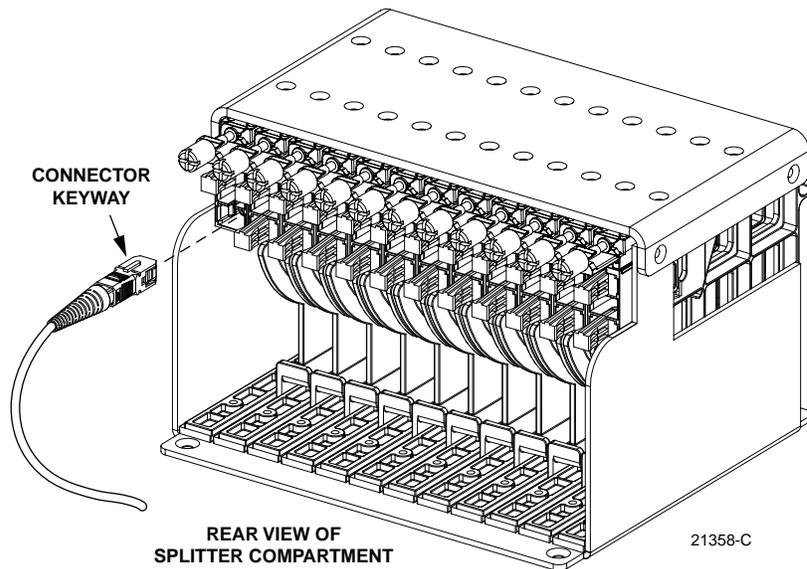

Figure 18. Feeder Cable Connector
3. Remove the corresponding feeder cable connector(s) from the rear of the splitter compartment as shown in Figure 18.
3. Remove the feeder cable connector(s) from the rear of the splitter compartment (see Figure 18).